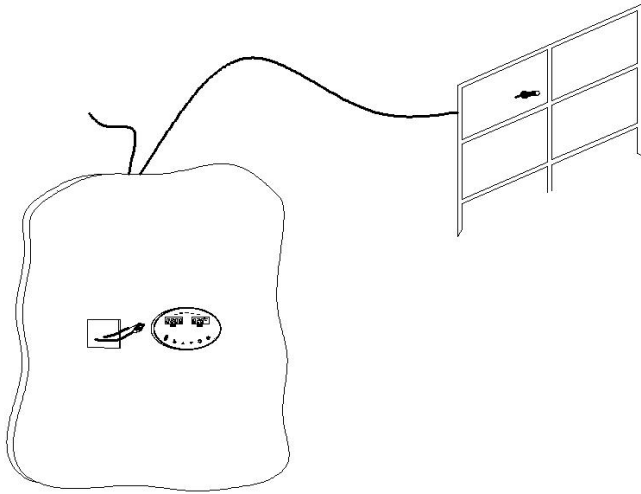

Fig.4
4. Loosen the cover screws and remove the cover. Open the blind hole for the incoming power line on the right side of the machine (see Figure 4). Connect the three-core cable (220V connection) (two power supplies and one ground wire) or five-core cable (380V connection) (four power supplies and one ground wire) of the machine, and strip off the 5cm long insulation layer. Connect the ground wire with the yellow-green multi-core wire in the machine, connect two power lines with the terminals marked with "L" and "N" (220V) or four power lines with the terminals marked with "N", "L1", "L2" and "L3" (380V).
3. After completing the interior sauna decoration, insert the steam generator control line and the temperature sensor connection line into the plug according to the color instructions and tighten the set screws. Then turn on the power and test whether the buttons are usually working. After the detection is correct, tear off the double-sided adhesive protection film on the back of the controller. Finally, paste the controller on the wall. (Fig.4)